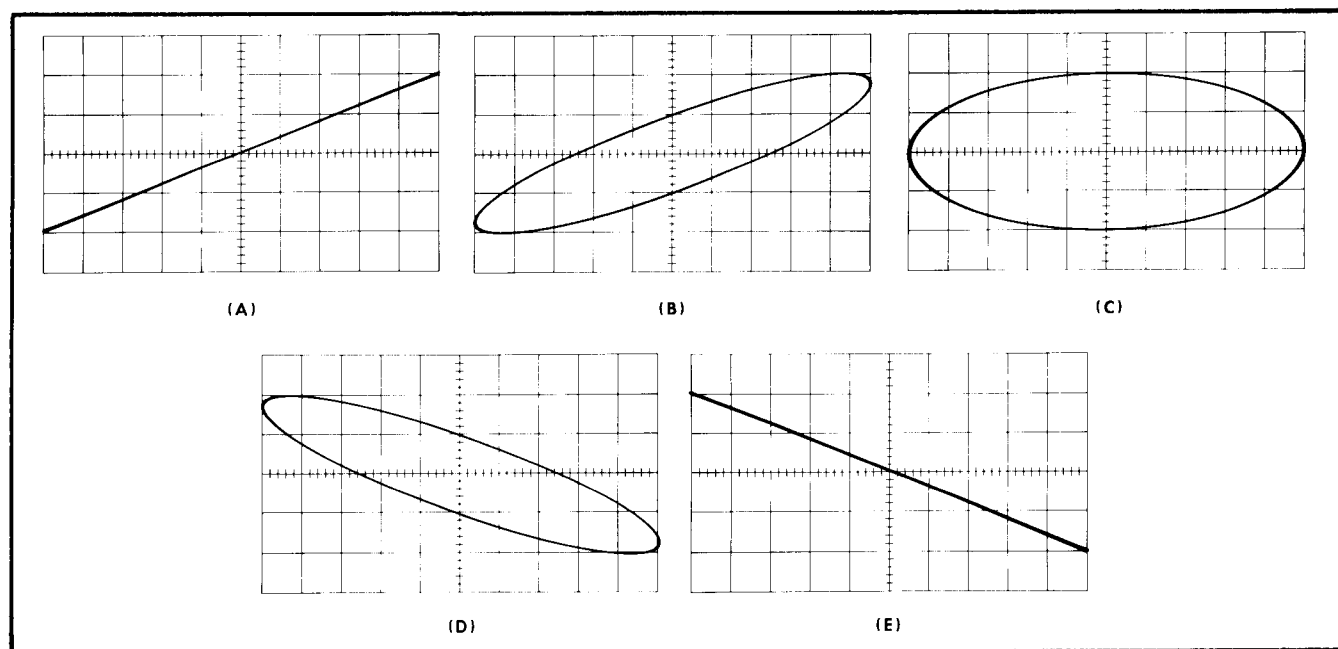

Fig. 2-31. Phase of lissajous displays. (A) 0° or 360° , (B) 30° or 330° , (C) 90° or 270° , (D) 150° or 210° , (E) 180° .
6. If the display appears as a diagonal straight line, the two signals are either in phase (tilted upper right to lower left) or 180° out of phase (tilted upper left to lower right). If the display is a circle, the signals are 90° out of phase. Fig. 2-31 shows several lissajous displays between 0° and 360° phase shift. Notice that above 180° phase shift the resultant display is the same as at some lower phase angle.